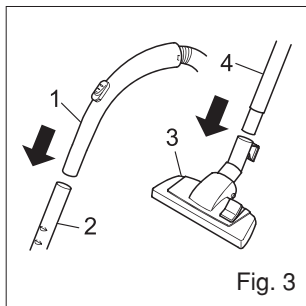
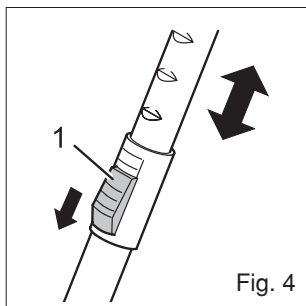

Fig. 3
Fig. 4
- Insert the handle (Fig. 3/1) into the upper end of the telescopic tube (Fig. 3/2).
- Attach the floor nozzle (Fig. 3/3) to the bottom end of the telescopic tube (Fig. 3/4)
- Adjust the length of the telescopic tube. Press down the release latch on the tube (Fig. 4/1) to do this, then pull the handle handle of the telescopic tube to extend (Fig. 3/1) it to your desired length.